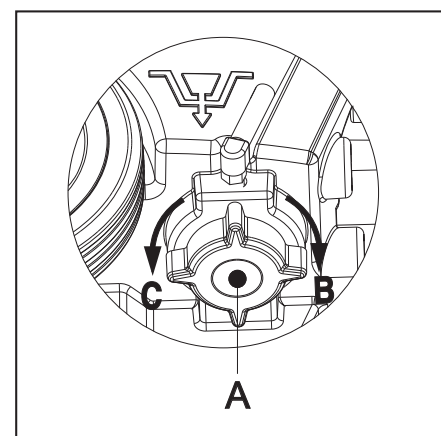

FIGURE 14
7. As shown in Figure 14, turn open the lid of Solution tank (A) counter clockwise (direction C), to drain Solution tank completely. Use clean water to rinse the inside of Solution tank. When work is completed, replace the solution tank lid (A) by twisting in a clockwise in direction (B).